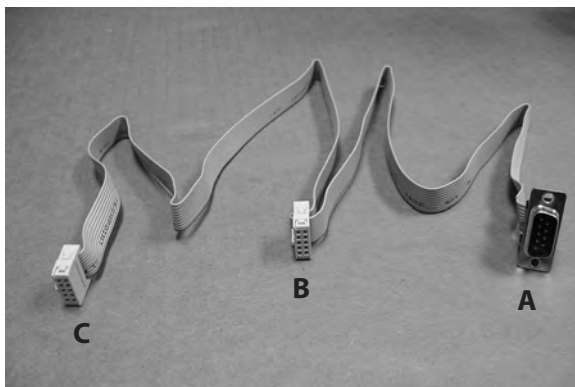

**Figure 1**
1. Place the carriage on the table rails ensuring that the carriage stitch regulator assembly is toward the back of the table (**Figure 1**).
- 4.** Plug final ribbon cable Connector C into the carriage stitch regulator assembly (**Figure 1, page 8**).